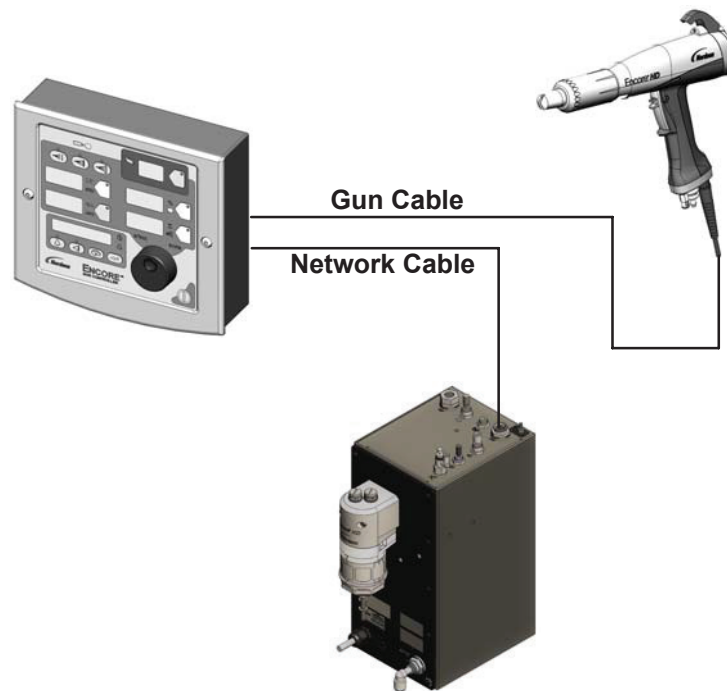
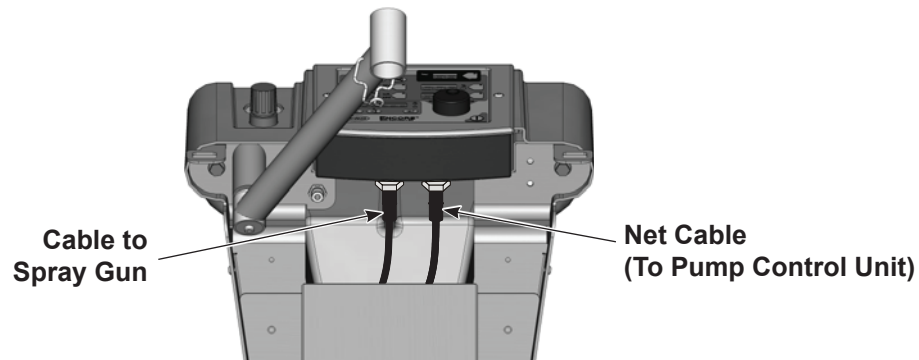

Figure 3-3 Controller Connections
Figure 3-4 Spray Gun Cable Connection to System Controller – Mobile System Shown
See Figure 3-3 and Figure 3-4. The controls for the system consist of a two piece unit connected by a network/power cable.
1. Mobile System: See Figure 3-4. Feed the spray gun cable into the back of the dolly tower and up through the top front. This will allow the user to bundle the cable with the pattern and electrode air wash tubing.